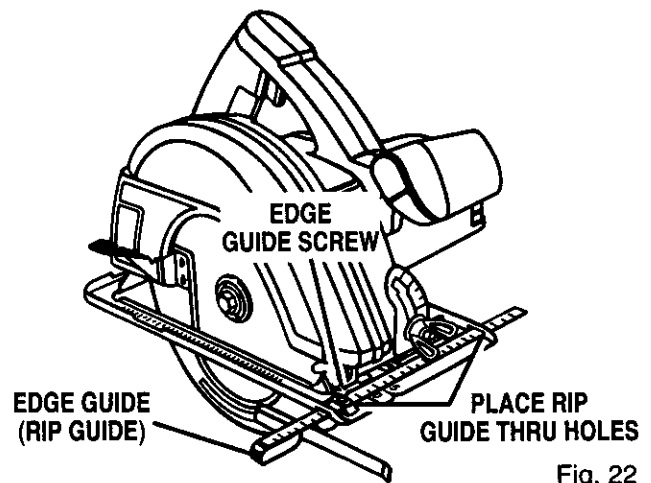

Fig. 22
C-clamps, firmly clamp a straight edge to the workpiece and guide the saw along the straight edge to achieve a straight rip cut. Do not bind the blade in the cut. If using the optional rip guide, see the following instructions and Figure 22.
- Place rip guide through holes in saw base as shown in Figure 22.